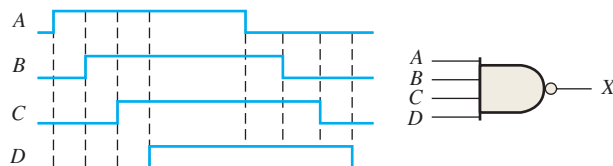

FIGURE 3-85
19. Determine the output waveform in Figure 3-85.